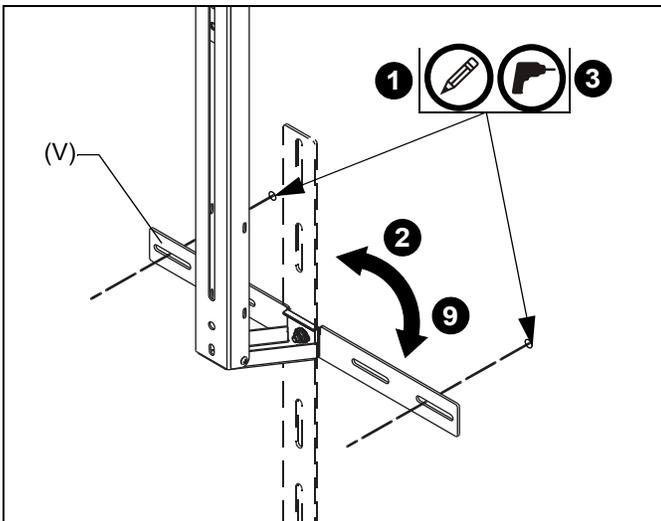

Figure 21
1. Mark the wall through the lower wall bracket (V) on each upright assembly. (See Figure 21)
3. Drill a 1/2" pilot hole at each marked location. (See Figure 21)
9. Rotate the lower wall bracket back into place. (See Figure 21)